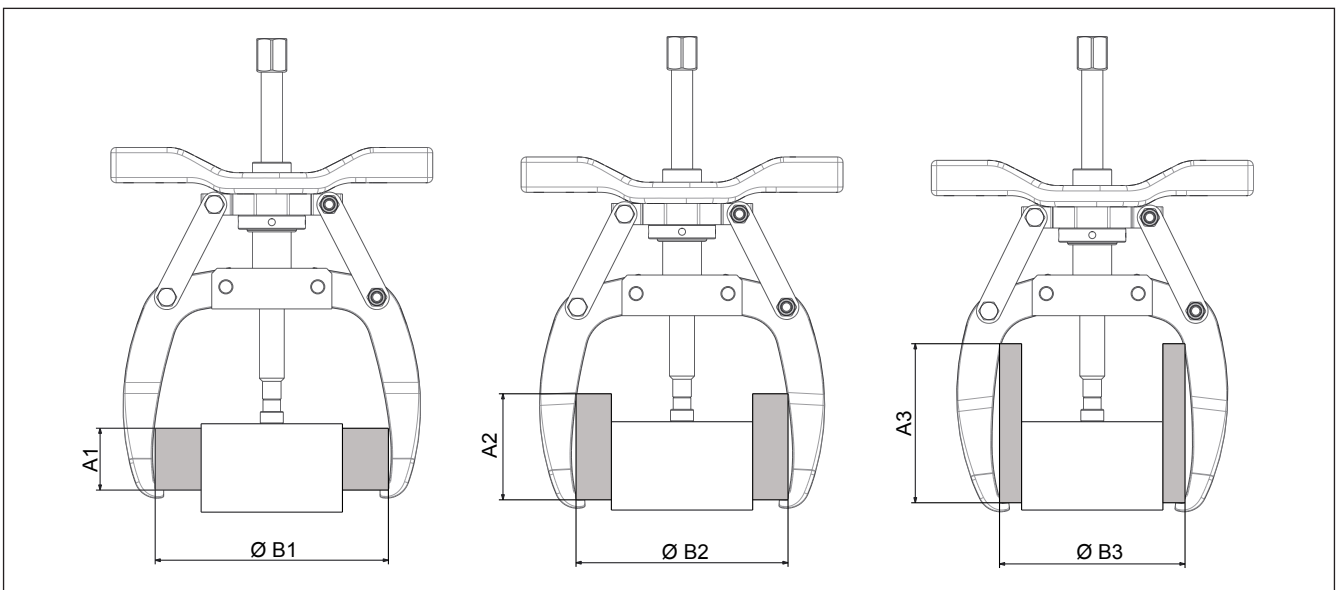

Figure 6, Puller Maximum Reach and Spread
- When installing the puller on the workpiece, refer to the maximum reach and spread dimensions contained in Figure 6. Following these important guidelines will reduce the amount of jaw and spindle deflection in the event of great force.
**NOTICE** The spindle and the jaws must engage the workpiece, and achieve at least the minimum reach and spread indicated in figure 6 . If additional reach is required, a spacer may be applied. place an appropriately sized spacer between the point protector and the workpiece during step 3.